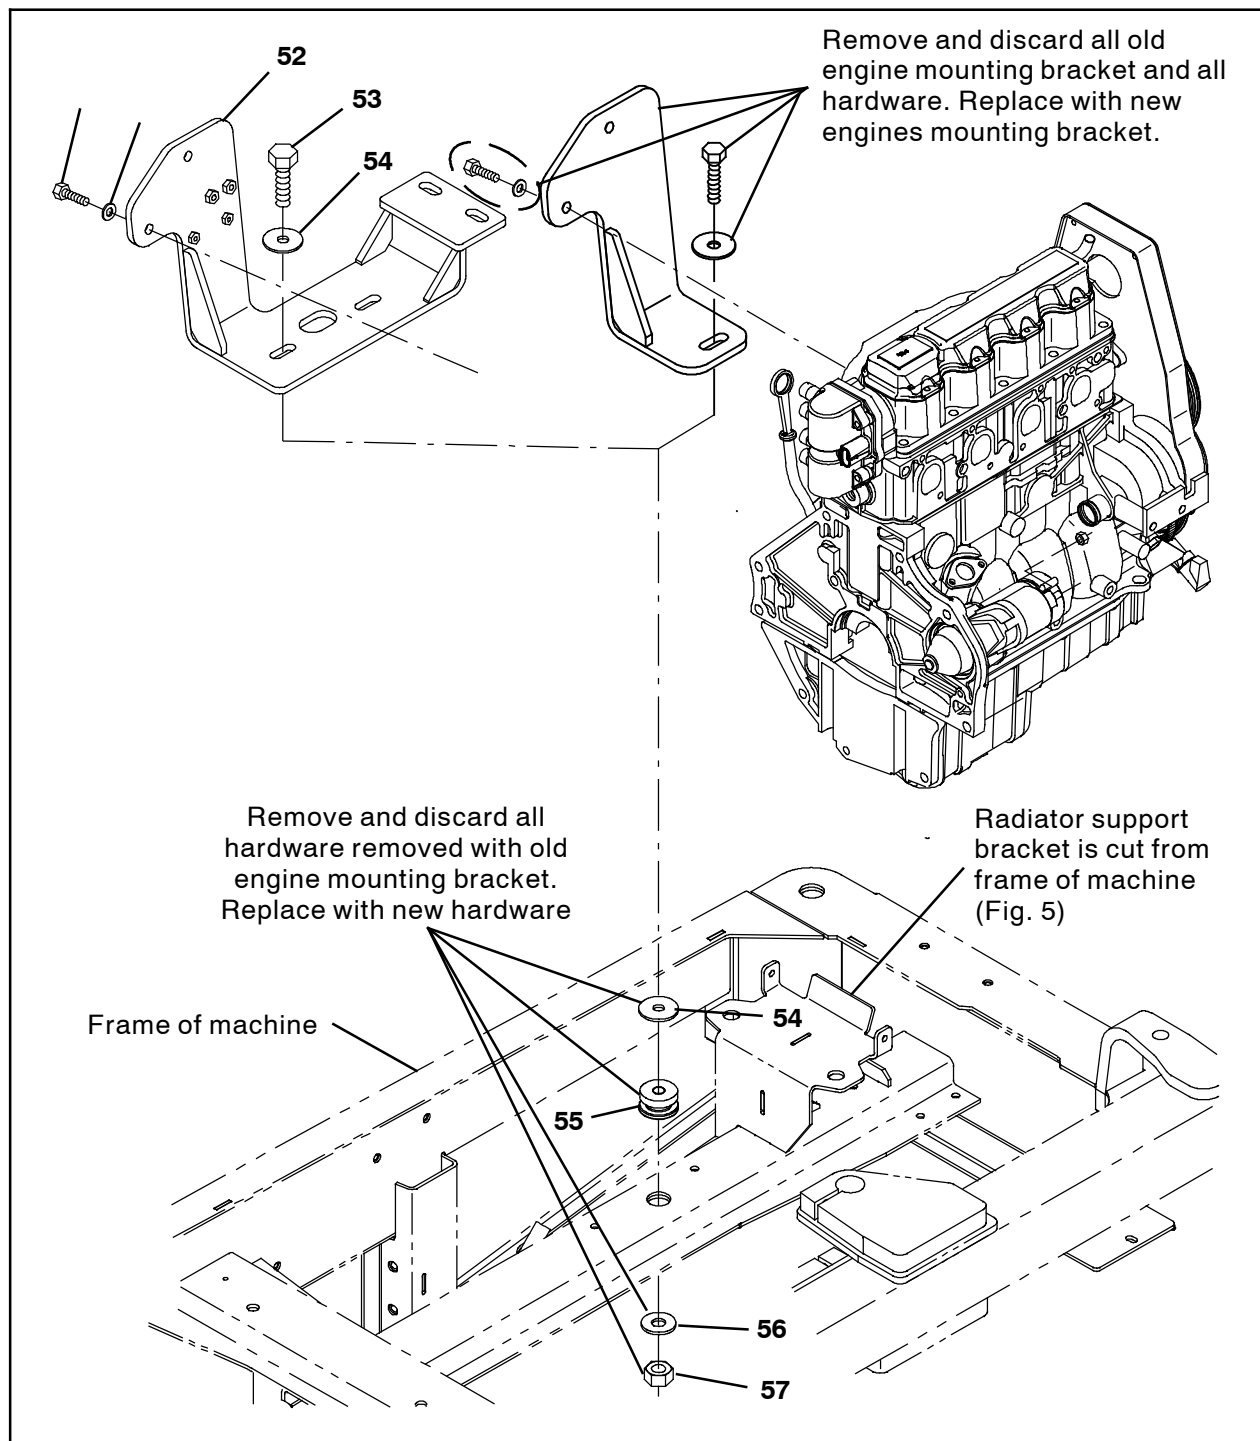

FIG. 4
1. Loosen necessary engine mounting hardware to make it possible to lift the front of the engine enough to remove the engine mounting bracket. (Fig. 4)
2. Lift the engine from the engine mounting bracket. (Fig. 4)
3. Remove the old engine mounting bracket from the machine. Discard the removed engine mounting bracket and all hardware. (Fig. 4)
5. Use two M12 hex screws (53), four flat washers (54), two vibration isolators (55), two flat washers (56), and two M12 hex nuts to install the new engine mounting bracket (52) onto the frame of the machine. (Fig. 4)
6. Lower the engine onto the new engine mounting bracket and the frame of the machine and install / tighten hardware to secure the engine to the engine mounting bracket / frame of the machine. (Fig. 4)